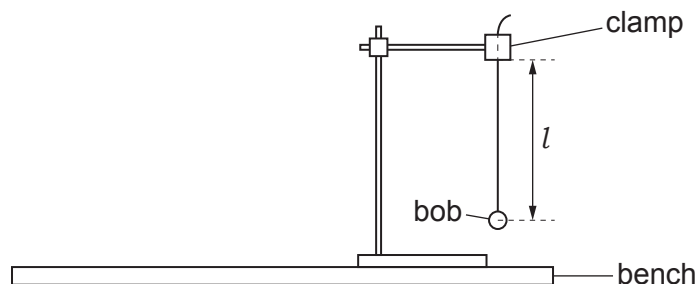

Fig. 5.1
1. The pendulum must be set up for the candidates with a length l of exactly 40.0 cm from the bottom of the split cork to the middle of the pendulum bob (see Fig. 5.1).
2. Candidates must be able to adjust the length of the pendulum easily up to a length of 82 cm. Retort stands of 82 cm or less in height may be used if the retort stand is reversed so that the pendulum hangs below the level of the bench. The base of the stand would need to be secured with a G-clamp and/or a heavy weight. Supervisors would need to warn candidates of the difference between the diagram in Fig. 5.1 and the set-up of their experiments.